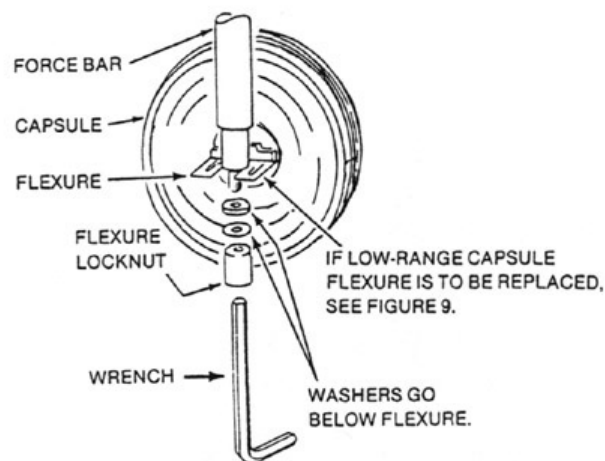

Figure 8
2. Position capsule in its cavity so that flexure fits on force bar. Align index marks on capsule and body and carefully tighten flexure locknut with wrench. See Figure 8.